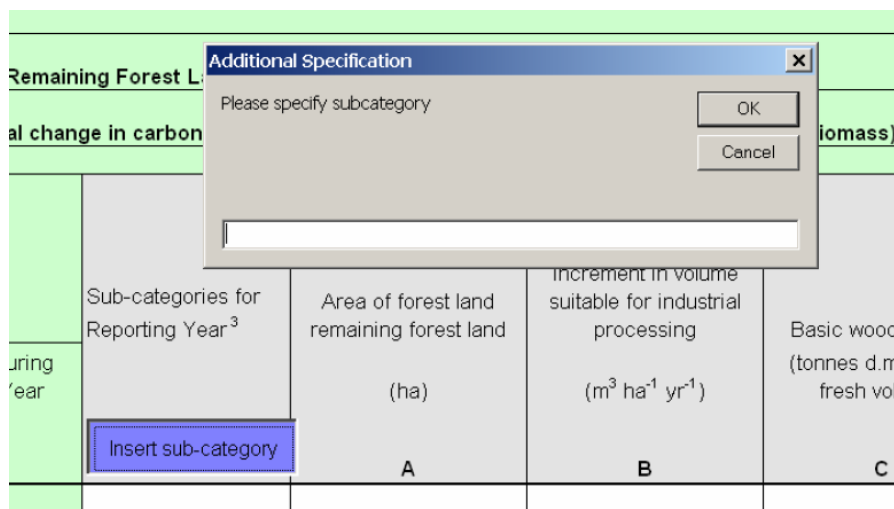

Figure 20. By clicking the blue button the user can specify sub-categories for land uses and land-use changes.
- In the various tables it may be useful to **disaggregate Land Use or Land-Use Change categories into sub-categories**. This can easily be done by clicking the button provided in the worksheet and to specify the name of the sub-category (Figure 20). In some cases the same sub-categories should be used in several successive sheets, so that the software automatically inserts the same categories into more than one sheet. For example, the sub-categories that you insert into Table FL-1a_1of4 will automatically be inserted into Tables FL-1a_2of4, FL-1a_3of4, and FL-1a_4of4. Ensure that sub-categories are used consistently.